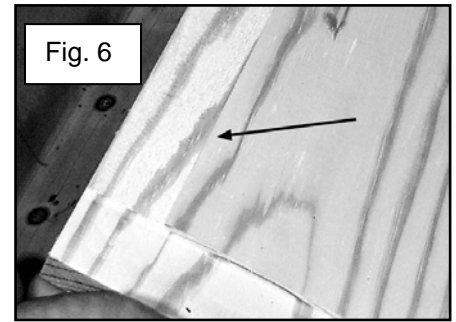
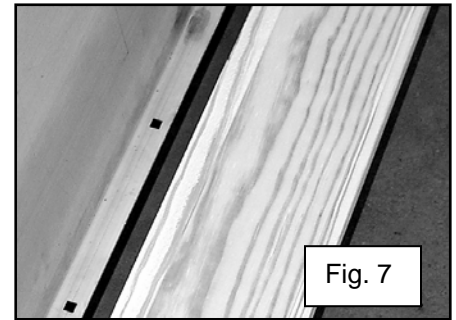

Fig. 6
Fig. 7
8. Install the edge boards under the lower bed side lip on the left and right hand side. These edge boards are identified by the 1-1/16" wide by 1/16" deep machined recess along the length of the two boards. See figure 6. This recess fits under the bed side lip. See figure 7. These boards have the rear end of the board machined as well for the rear bed wood sill protector. This end fits at the rear cross sill. This means that there is a left and right hand edge board.